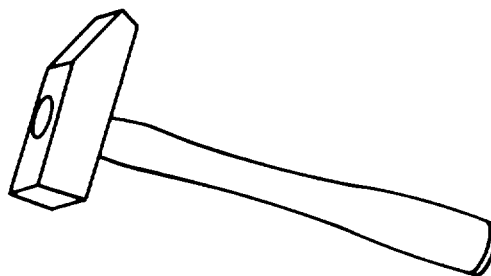

Figure 4-4. Setting Hammer
(4) Setting hammer. The setting hammer has a square flat face on one end of the head and a sloping beveled edge on the other end. It is used in sheet metal work for leveling and bending edges and for setting double seams. An example of this type of hammer is shown in figure 4-4.